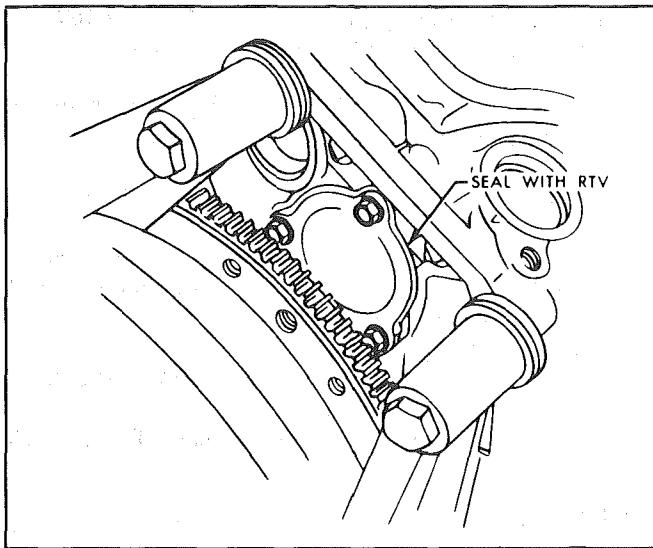

Figure 6A2-21 Camshaft Rear Cover
1. With camshaft and crankshaft removed, remove camshaft rear cover from cylinder block (Figure 6A2-21).